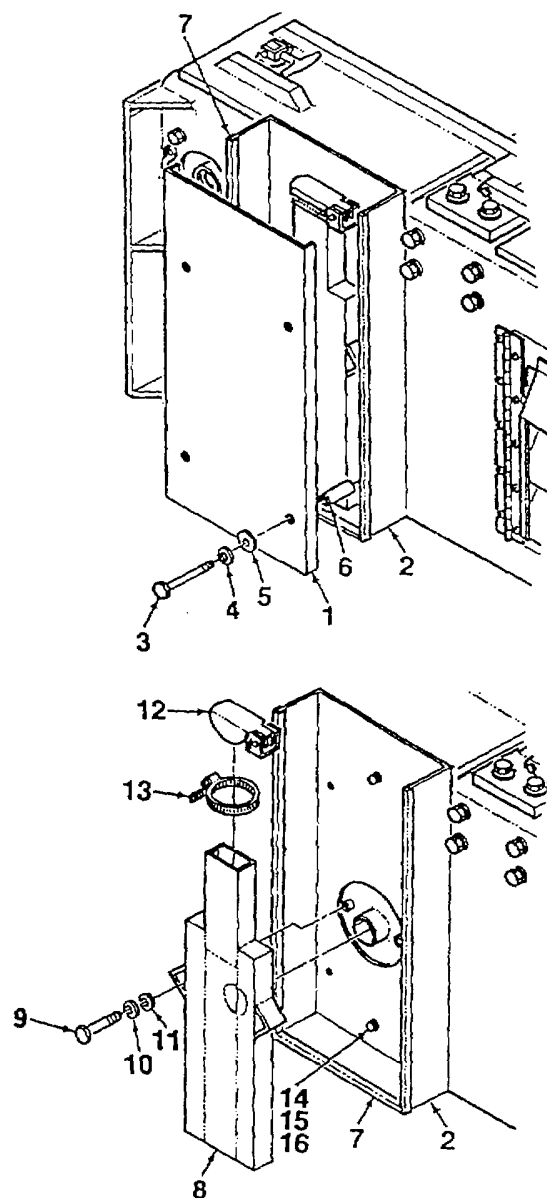

Figure 4-30. External Muffler
1. Remove muffler cover (1, Figure 4-30) from housing (2) by removing four screws (3), lockwashers (4), washers (5), and spacers (6).
2. Remove external muffler (8) from exhaust assembly nuts by removing two screws (9), lockwashers (10), and washers (11).
3. Remove rain cap (12) from muffler (8) by loosening clamp (13).
4. If replacement is required, remove housing (2) from APU enclosure by removing two screws (14), lockwashers (15), and washers (16). These screws also secure the internal exhaust assembly to the APU enclosure.
1. Apply anti-seize compound to threads of two screws (14, Figure 4-30). Secure housing (2) to APU enclosure using screws (14), lockwashers (15), and washers (16). These screws also secure internal exhaust assembly to the inside of the APU enclosure.
2. Fit rain cap (12) and clamp (13) onto external muffler (8). Secure by tightening clamp.
3. Mate external muffler (8) to exhaust assembly air duct.
4. Apply anti-seize compound to threads of two screws (9). Secure muffler (8) using screws (9), lockwashers (10), and washers (11).
5. Apply anti-seize compound to threads of four screws (3). Install muffler cover (1) using screws (3), lockwashers (4), washers (5), and spacers (6).